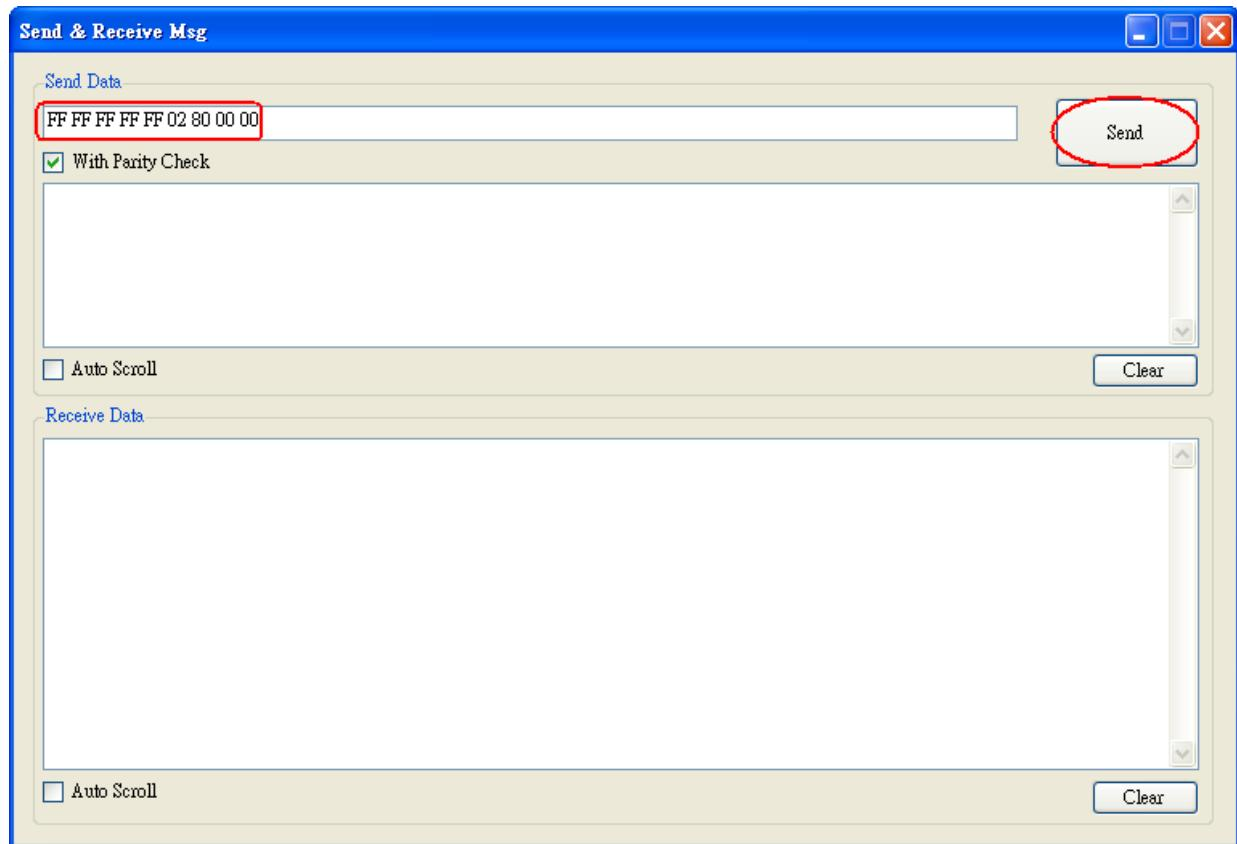

Figure 4-11: Send HART Command
- (2) Please type the HART command in the "Send Data" filed and click "Send" button to send out the HART command like Figure 4-11.